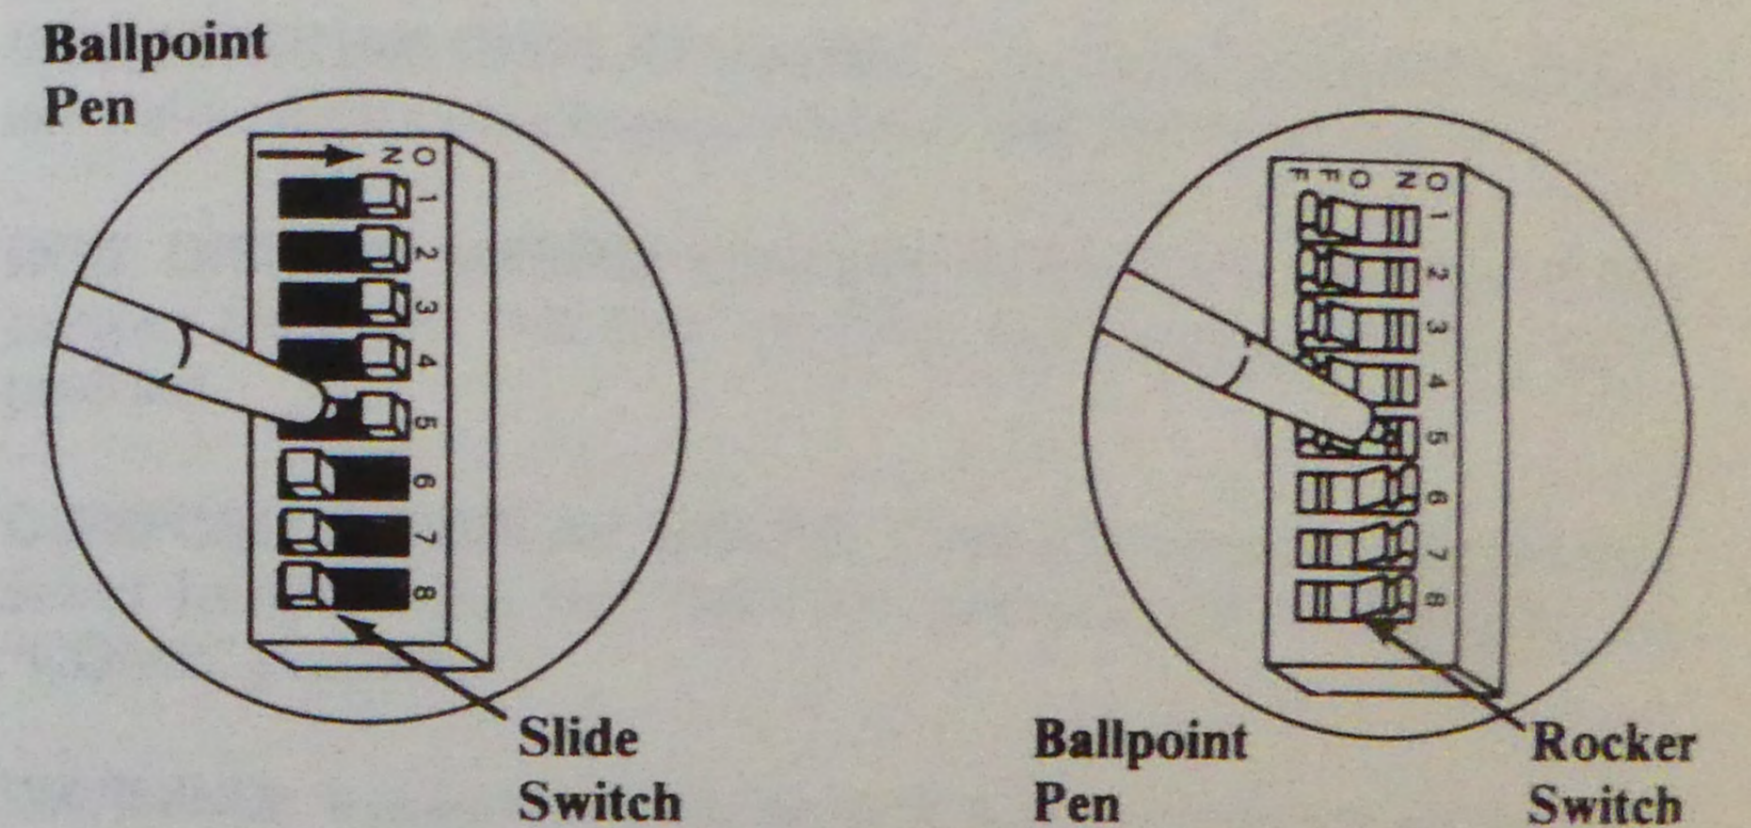

Figure 1.2
- Figure 1.2 Types of Dip Switches 3
This manual will make constant reference to switches with rows of levers called DIP Switches. These switches are found on the Modular Graphics Card as well as the system boards of the various computer systems in which the Modular Graphics Card may be installed. These switches come in two styles: slide switches and rocker switches. Refer to Figure 1.2 for a detailed view of how to set these switches. The ballpoint pen in each illustration is turning a lever to the ON position. Remember that OPEN means OFF.